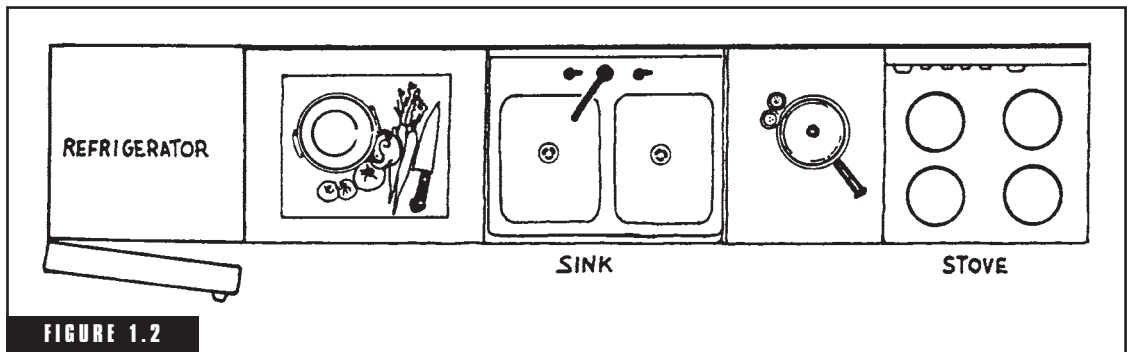

FIGURE 1.2
1. Provide adequate working space. Any kitchen can be thought of as a combination of three work areas (Fig. 1.2). The first is food